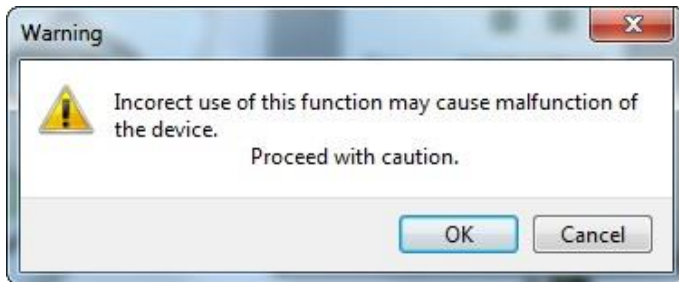

Fig. 23 Warning.
- Warning: Select **OK** to start update (Fig. 23).